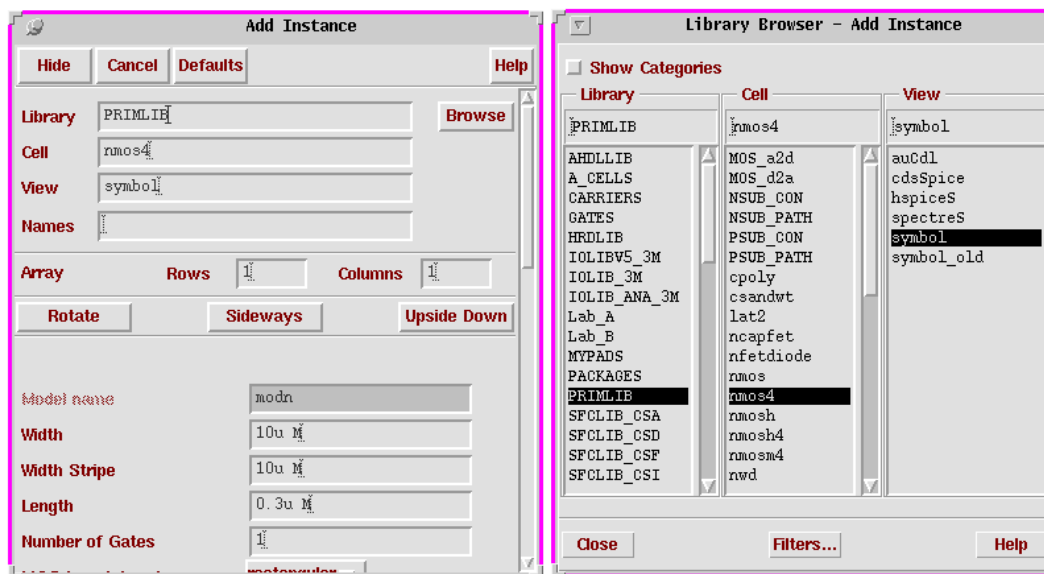

Figure 4.2: Adding an instance
1. Select *Add > Instance* and the form **Add Instance**, fig. 4.2, will appear.